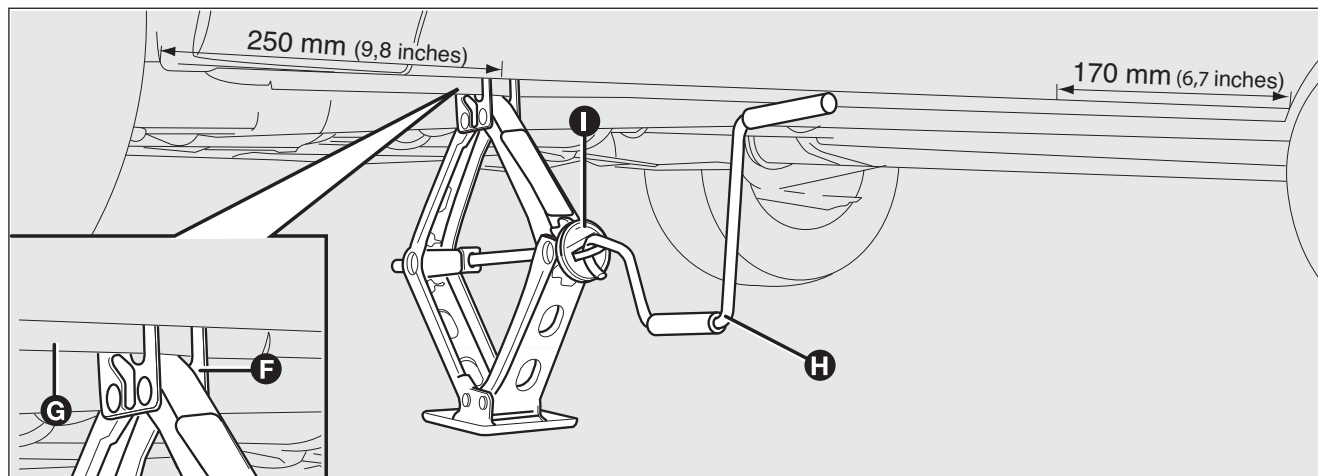

fig. 6
- ☐ make sure that the groove **F**-fig. 6 of the jack is well in contact with the tab **G** of the side member;